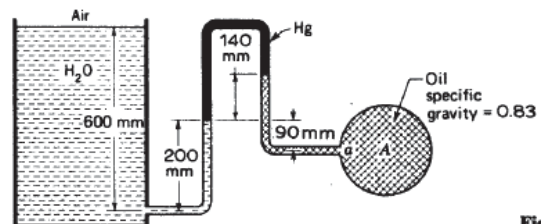

Fig. 2-68
2.96 For the setup shown in Fig. 2-68, calculate the absolute pressure at a.